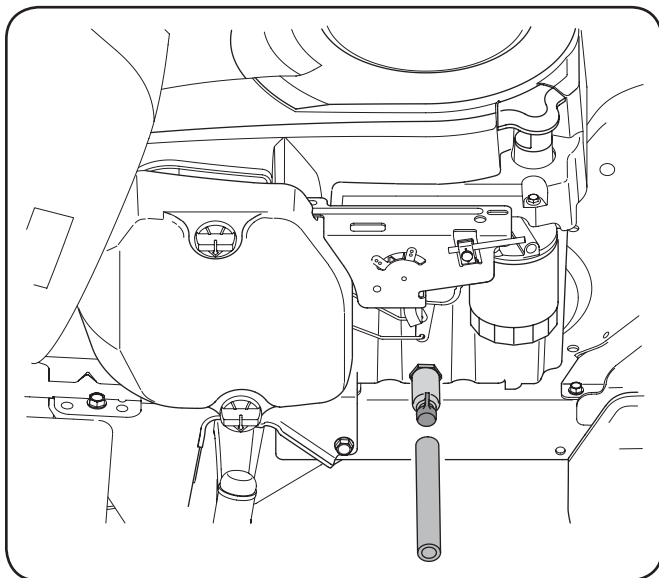

**Figure 6-1**
3. Pop open the protective cap on the end of the oil drain valve to expose the drain port. See Fig 6-1.